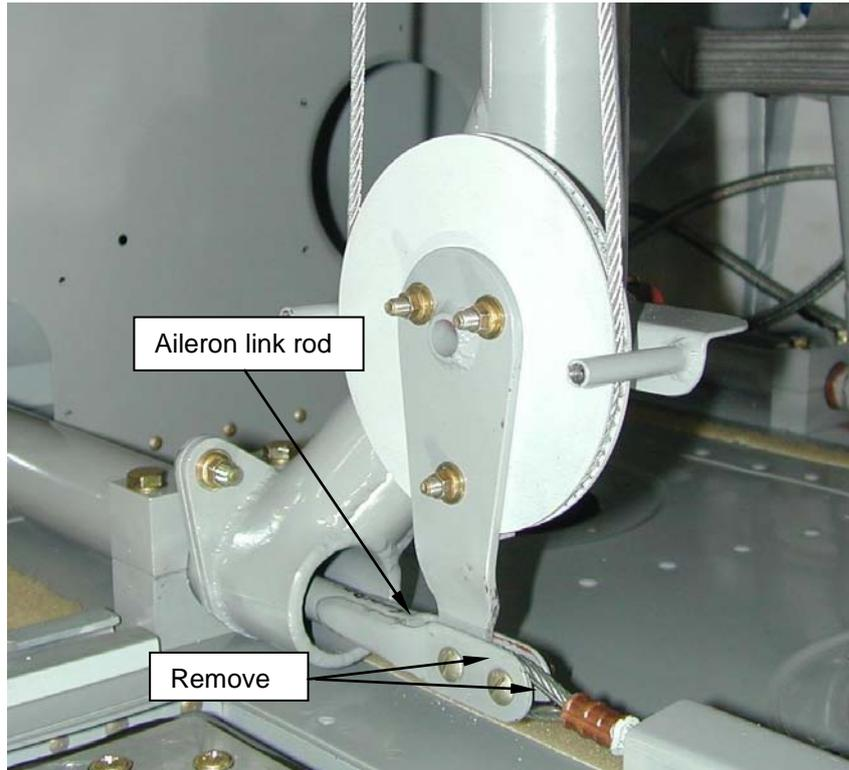

Figure 2 (dual control installation shown)
3. Disconnect the aileron cables from the aileron link plate (single control installation) or aileron link rod (dual control installation). Refer to Figure 2.